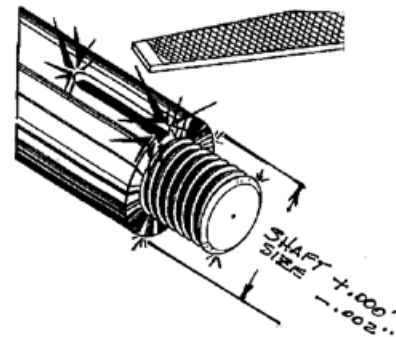

Figure 42
1. Check shaft/sleeve, it should be seal size  $+0.000''$  to  $-0.002''$  (0mm to 0.05mm) (Figure 42).
4. Check all keyways, threads, and shoulders for sharp edges, which could damage elastomers. Round edges or tape over before installation (Figure 42).